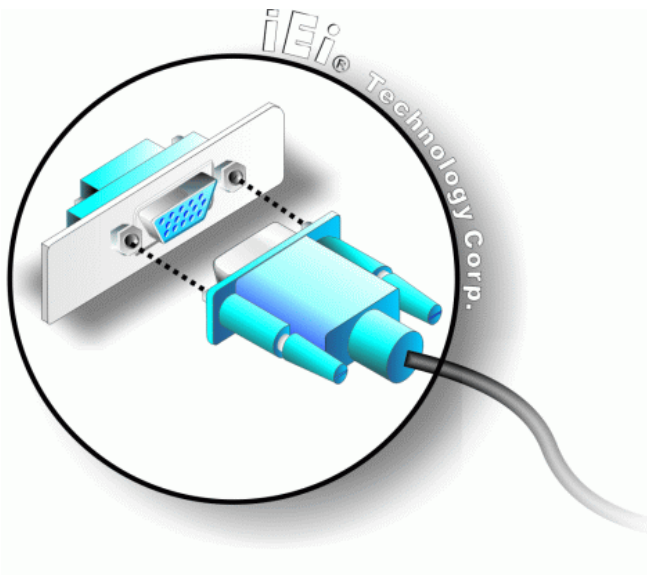

Figure 5-20: VGA Connector
- Step 3:** **Insert the VGA connector** Once the connectors are properly aligned with the insert the male connector from the VGA screen into the female connector on the NANO-9452. See **Figure 5-20**.